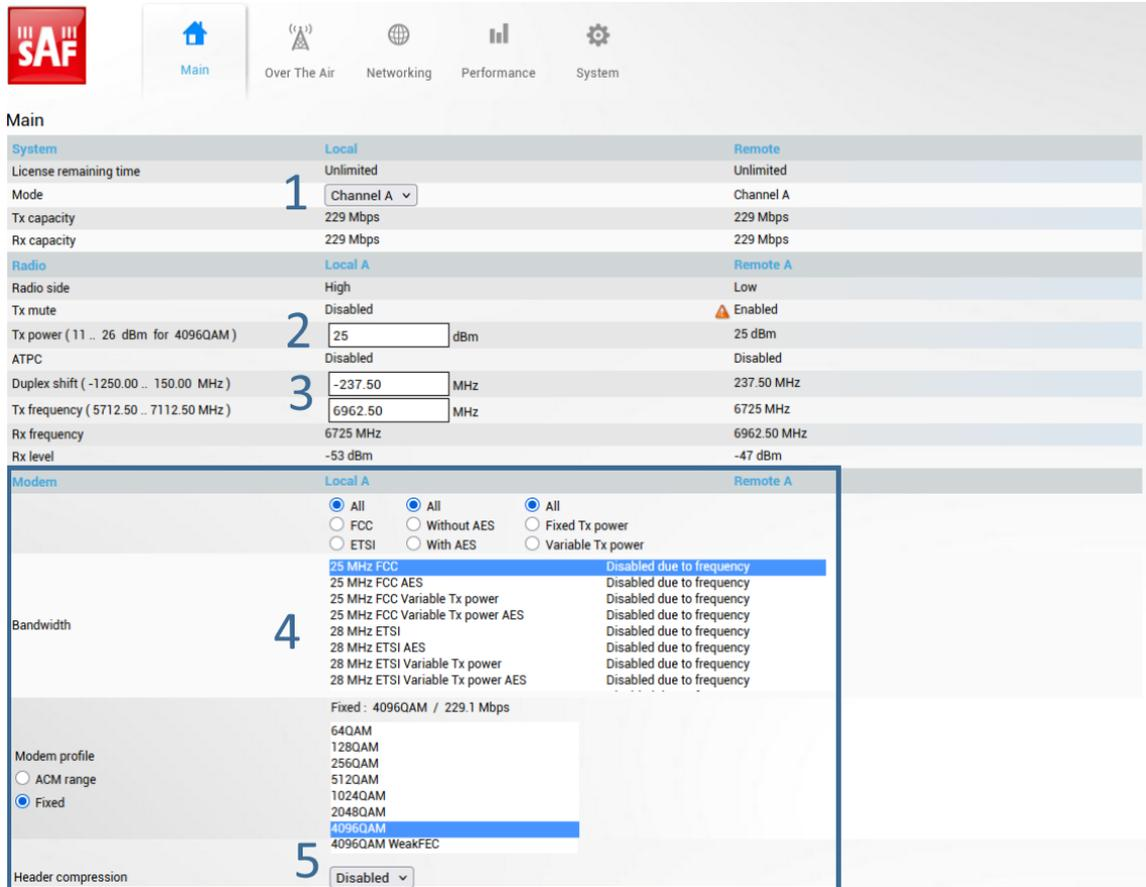

Figure 6-14 1+1 HSB Full redundancy configuration step on Main page
STEP1: Main parameter configuration on the Main page, see the *Figure 6-14*: